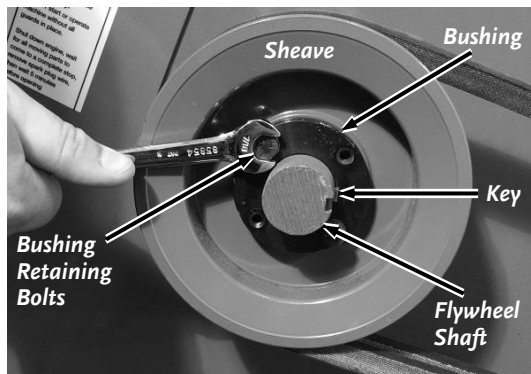

Figure 46b: Pro-XL 575
- a) Remove the Bushing Retaining Bolts (**Figure 46b**).